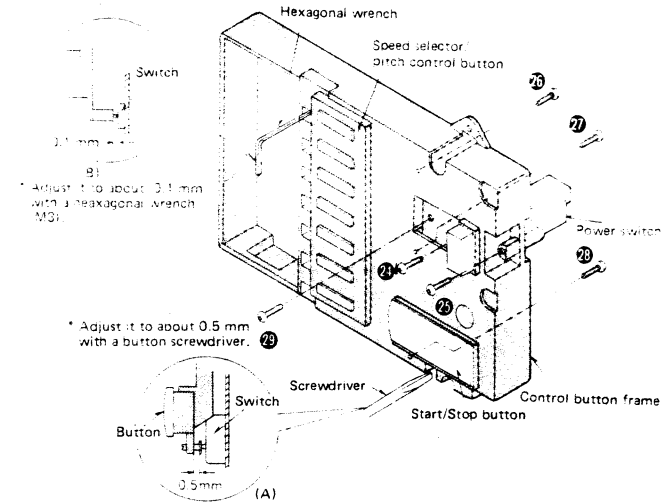

Fig. 5
3. Remove the setscrews ⑳ and ㉑ in Fig. 5 to remove the power switch.
4. Remove the setscrews ㉒ ~ ㉔ in Fig. 5 to remove the speed selector/pitch control button.
5. Remove the setscrews ㉕ in Fig. 5 to remove the start/stop button.
Note: The setscrews of the start/stop button and the speed selector/pitch control button are adjusted so that the screw tips slightly touch the buttons (to attain smooth switching). If further adjustment is needed, refer to Fig. 5 (A) and (B).
* For the speed selector and start/stop button screw adjustment refer to Fig. 5 on page 5.